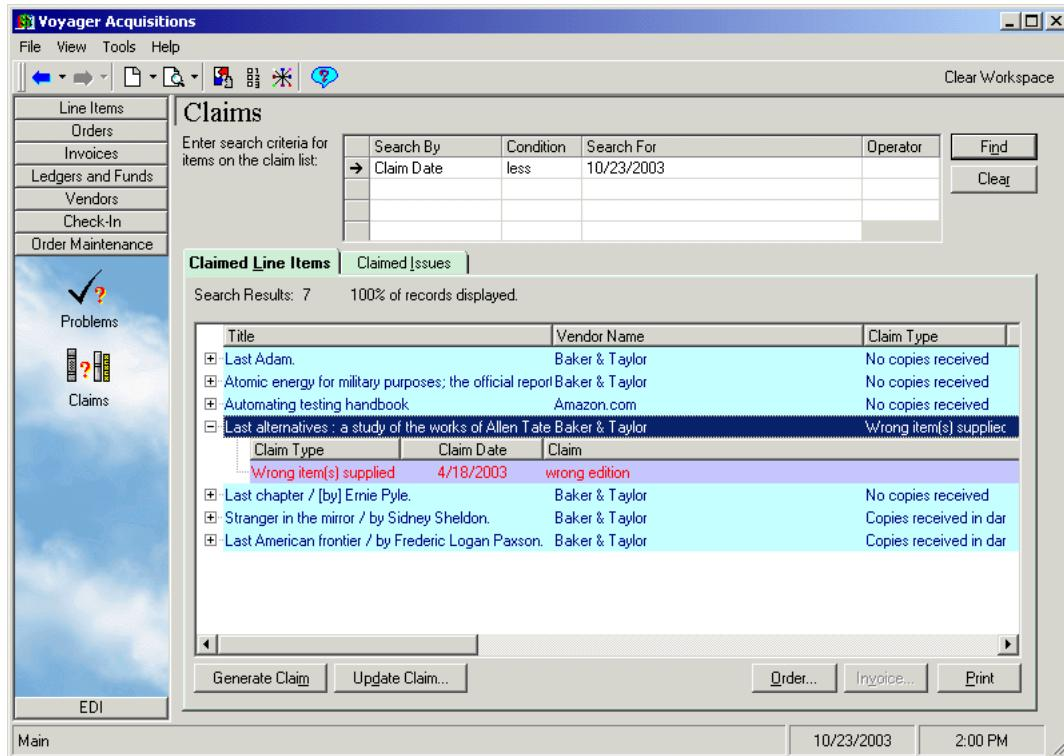

Figure 2-107. Claims workspace search results
8. To process an item, select it and click the wanted action button (see Figure 2-107). See Claims Workspace on page 11-21.